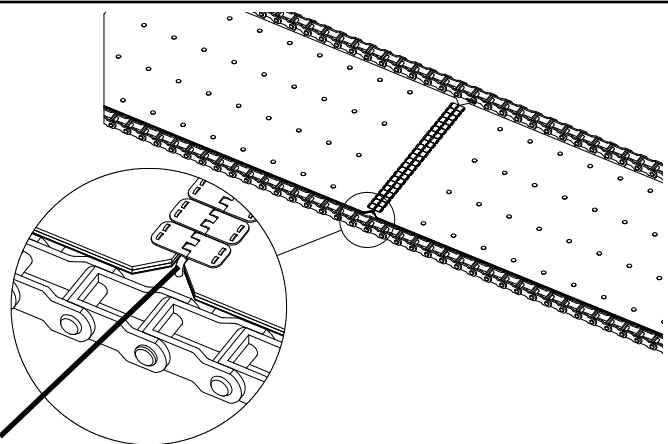

Figure 4 - Conveyor Belt Pin Installation
- Make sure belt connecting pin is positioned correctly as shown in Figure 4.